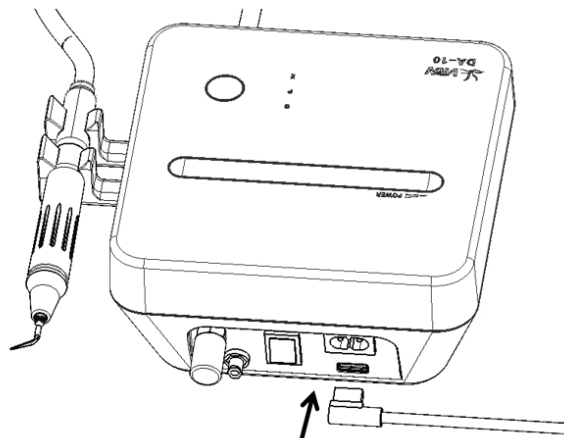

Figure 2.3
3) Insert the plug of the wired foot switch into the foot switch socket (See Figure 2.3).